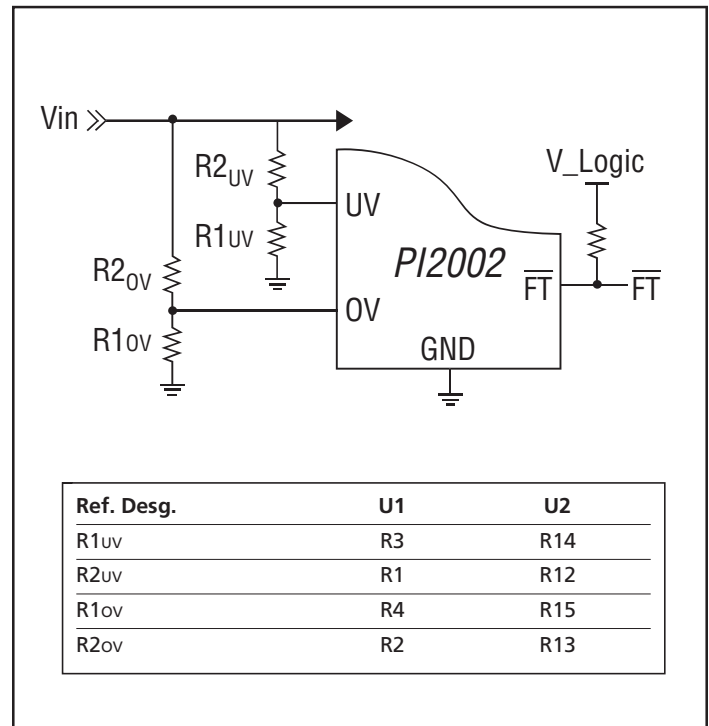

Figure 4 – UV & OV two-resistor divider configuration
2.1 UV and OV programmable resistors are configured for a 3.3 V Vin (BUS voltage) application in a two-resistor voltage divider configuration as shown in Figure 4. UV is set to 2.6 V and OV is set for 3.8 V, R1ov and R1uv are 2.00 KΩ 1%. If PI2002-EVAL1 is required to be used in a different Vin voltage application please follow the following steps to change the resistor values.